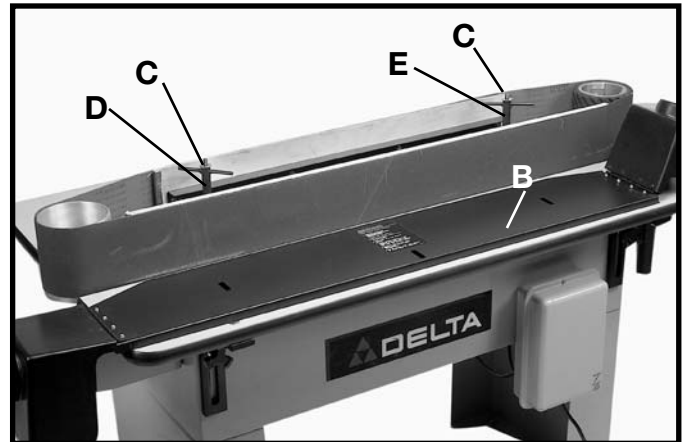

Fig. 9
1. Place a 1/2" flatwasher (C) Fig. 9, on studs (D) and (E).
2. Place top guard and dust chute assembly (B) Fig. 9, on studs (D) and (E). **IMPORTANT:** Make certain the top guard and dust chute assembly (B) is not interfering with the sanding belt. The slots in the top of guard and dust chute assembly (B) will allow adjustment.